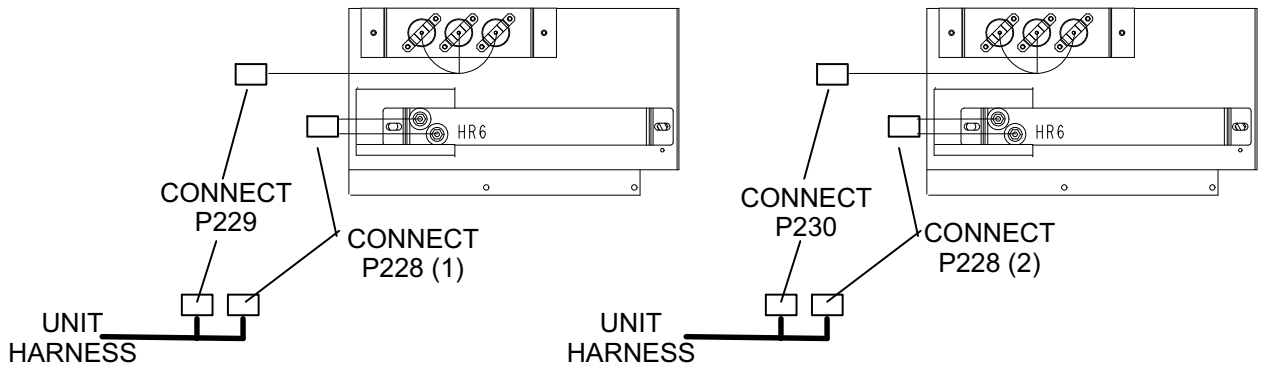

FIGURE 14
- 5- Make wire connections as shown in figure 14 and 15.